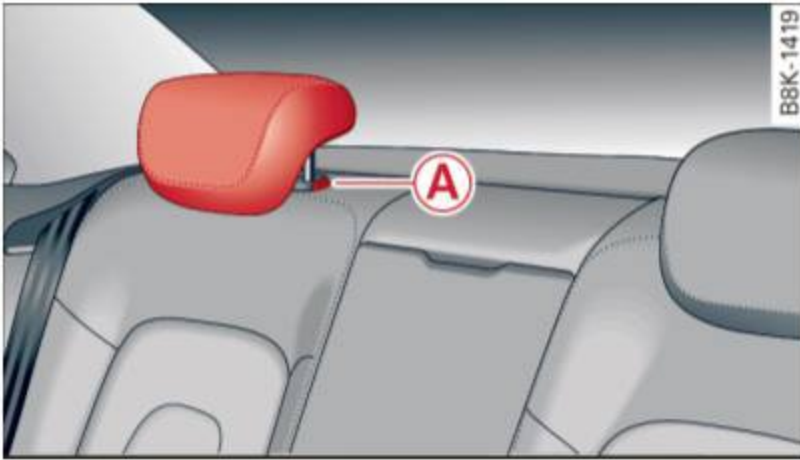
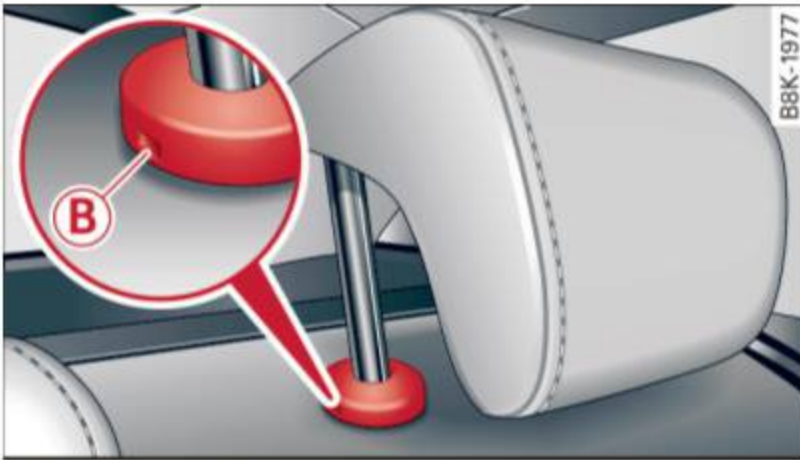

Fig. 55 Rear seats: head restraint
Fig. 56 Rear head restraints: release
- ▶ To move the head restraint down, press the button **A** ⇒ *fig. 55* and slide the head restraint downward.
- ▶ Press the release **B** ⇒ *fig. 56* with the mechanical key ⇒ *page 34* and the button **A** ⇒ *fig. 55*. Pull the head restraint out of the backrest at the same time ⇒ ⚠.
- ▶ Press the button **A** ⇒ *fig. 55* and slide the head restraint all the way down. You should not be able to pull the head restraint out of the backrest.